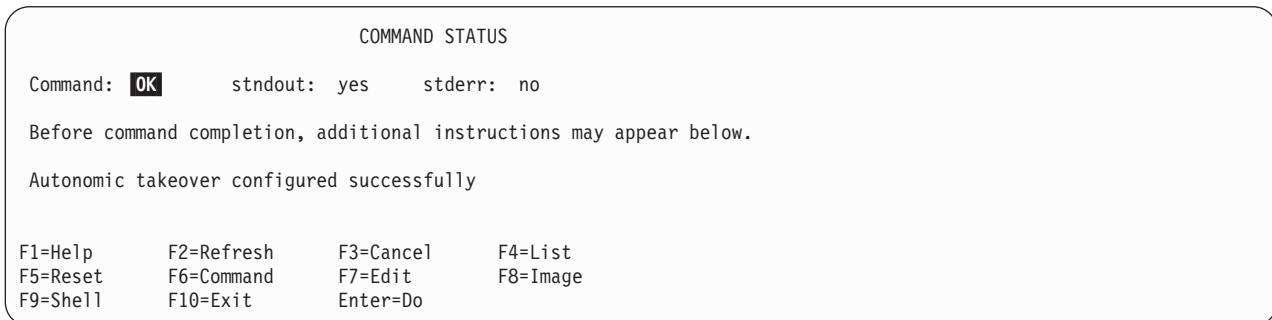

Figure 2-24. Processing AOTM To a Remote Cluster
8. Press **Enter**. You see Figure 2-24.